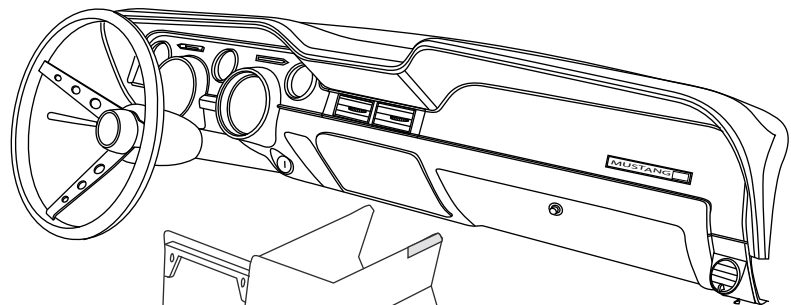

Figure 12
6. Reinstall the center console (if equipped). Modify console as shown in Figures 12 & 12a, below.